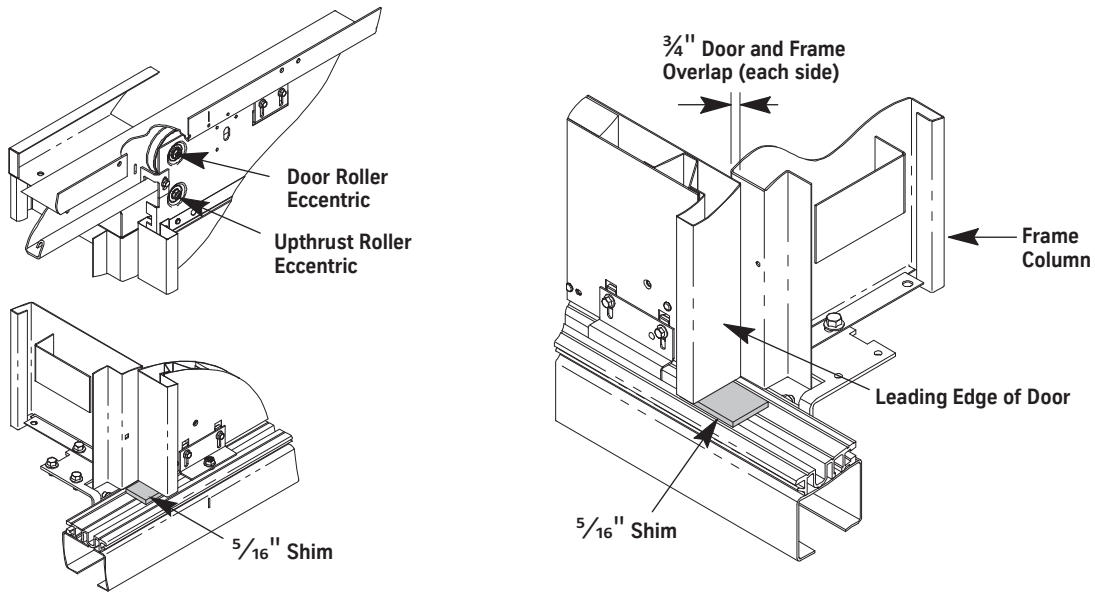

Figure 40 - Adjust Door-to-Sill Running Clearance
1. Place a 5/16" shim (running clearance) underneath the leading edge of the door. See Figure 40 on page 7-45.